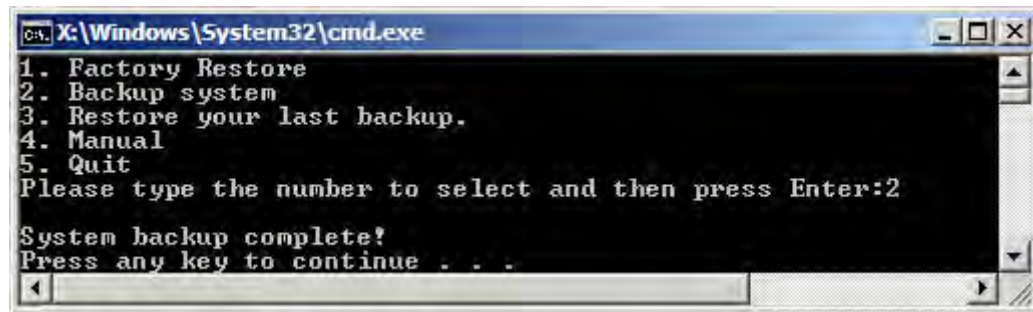

Figure B-30: System Backup Complete Window
Step 3: The screen is shown as in **Figure B-30** when system backup is completed.